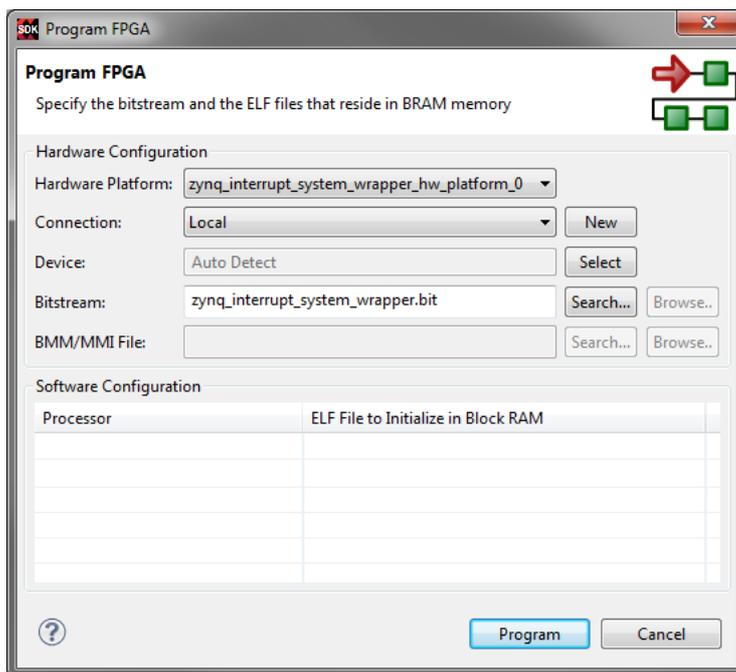

Figure 2.32: Program FPGA dialogue window
- (i) Download the bitstream to the Zynq PL by selecting **Xilinx Tools > Program FPGA** from the *Menu bar*. The *Program FPGA* window will appear. The Bitstream field should already be populated with the correct bitstream file, as in Figure 2.32.